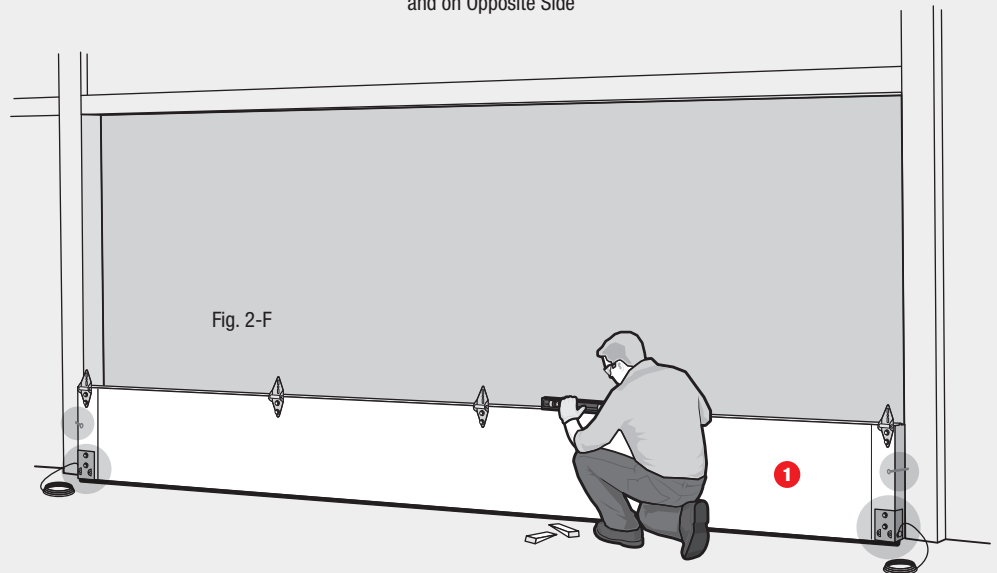

Fig. 2-F
- Once section is level, remove level and drive a 10d 3" common nail at an angle into jambs at each end over section to hold it in place (Fig. 2-G).